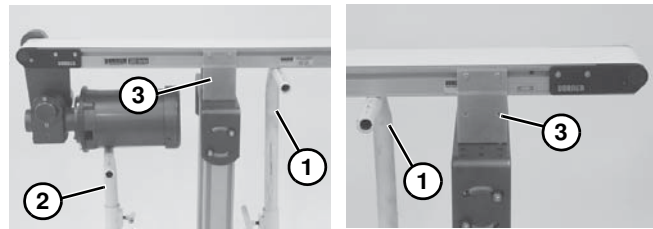

Figure 38
1. Place temporary support stands (**Figure 38, item 1**) at both ends of the conveyor. Place an additional support stand (**Figure 38, item 2**) under the drive motor, if equipped. See WARNING.
2. Remove mounting brackets (**Figure 38, item 3**) from one side of conveyor. (Reverse steps 3 & 4 of “Mounting Brackets” section beginning on page 21.) If equipped with heavy load drive package, remove brackets from side opposite drive cover (**Figure 39, item 1**).